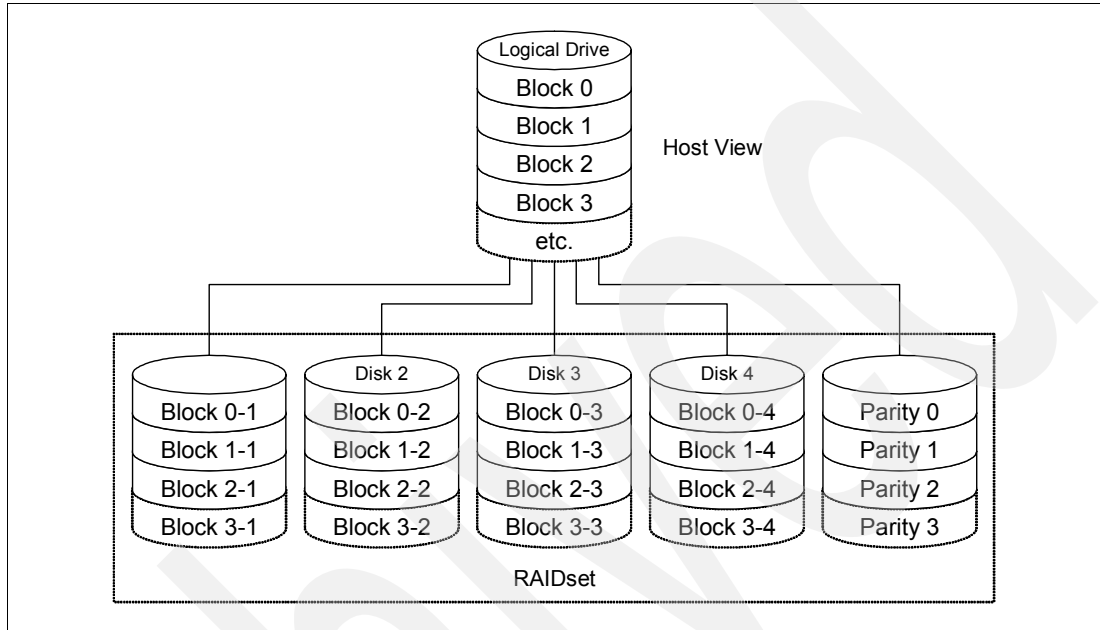

Figure 2-17 RAID-3
► RAID-3: Sequential access to large files (Figure 2-17)